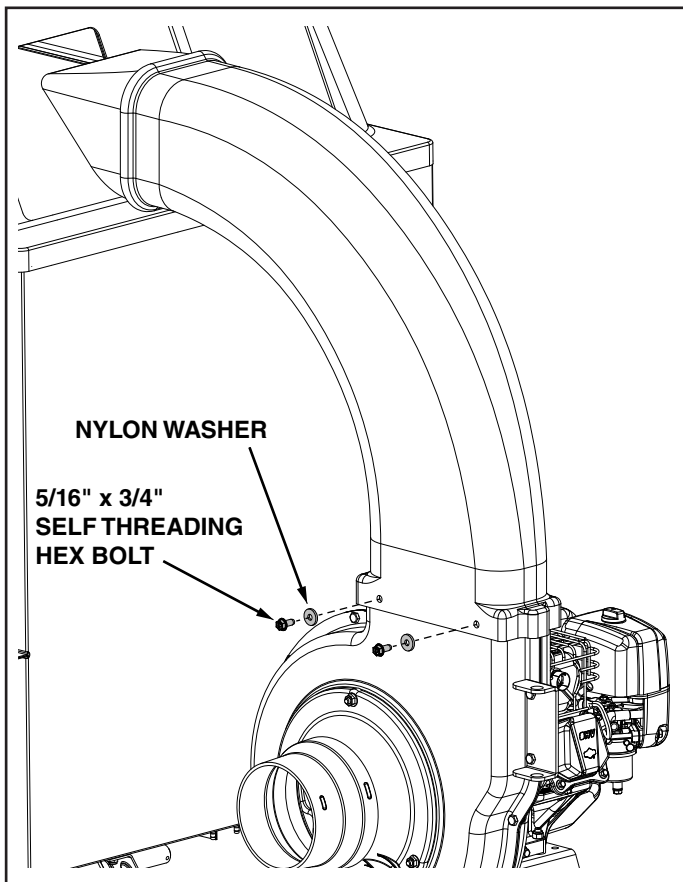

FIGURE 8
11. Assemble the elbow to the impeller housing using four 5/16" x 3/4" self tapping hex bolts and four nylon washers. Push while turning to help start the bolts into the un-threaded holes. **Tighten**. See figure 8.